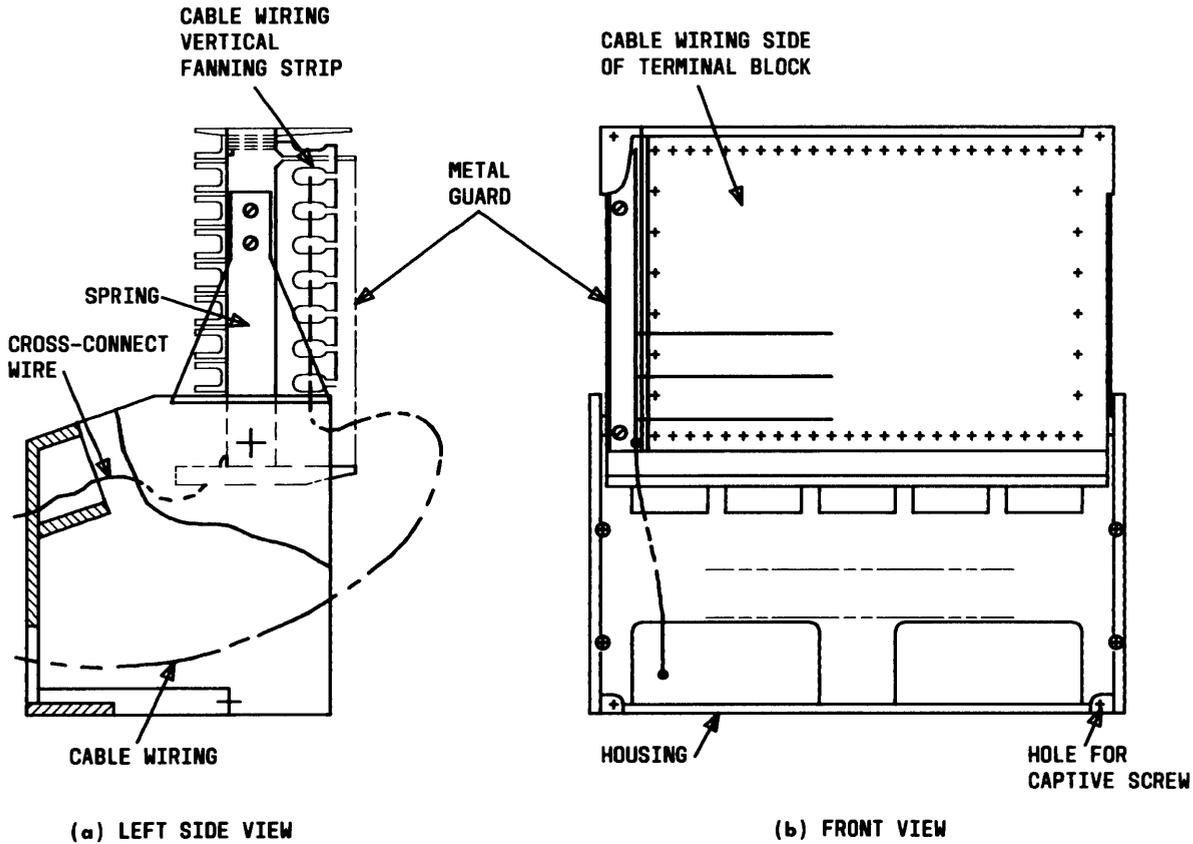

Fig. 4—89A-Type Connecting Block (Open Position)
2.08 By loosening the two captive screws, the terminal block assembly can be rotated upward 180° to reveal the cable wiring side of the block (Fig. 4). It is held in this position by a spring mounted on the right side of the block. The cable wires are fed through a slotted vertically mounted fanning strip and fanned horizontally across the block. An aluminum guard between the vertical fanning strip and the edge of the block helps to shield the cable wires from the housing.